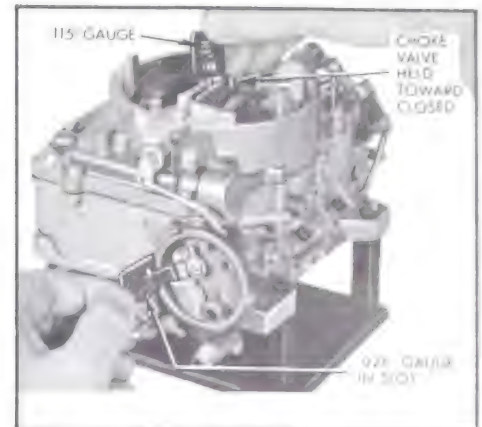

Figure 3-84—Choke Piston Adjustment
1. **Adjust Choke Piston Position.** Inside choke piston bore on left side, about $1/2$ inch down, is a small slot. Insert $1/8$ inch bent end of $.026$ " wire gauge into upper end of slot; then close choke valve until piston stops against gauge. Check opening between upper edge of choke valve and inner wall of air horn using $.115$ " Wire Gauge. See Figure 3-84. If adjustment is required, place Tool J-5197 on lower section of choke rod and bend as necessary.